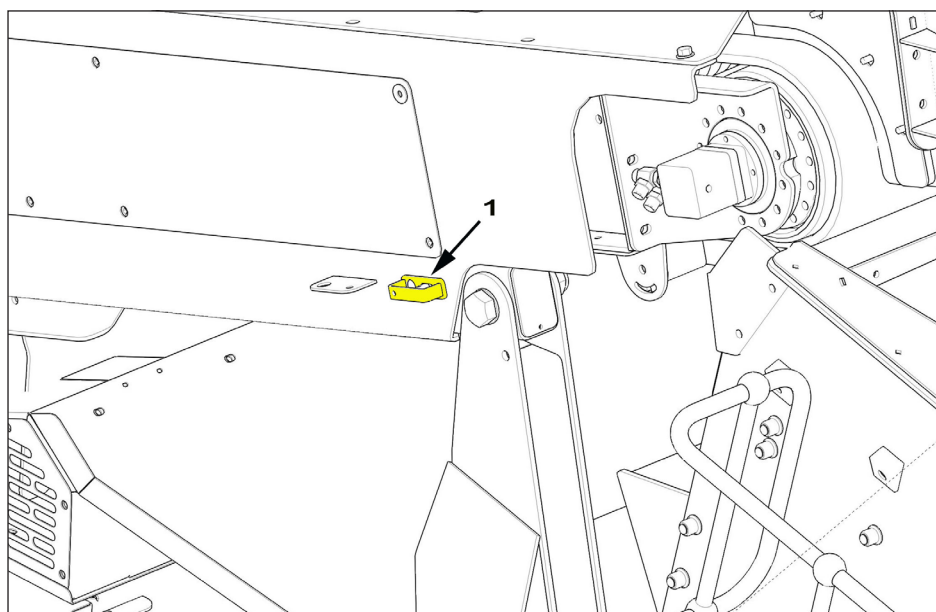

Figure 5.1 - Feeder Working Position
1. To Slide feeder conveyor backward for transport first remove Locating Pin (1) Figure 5.1.